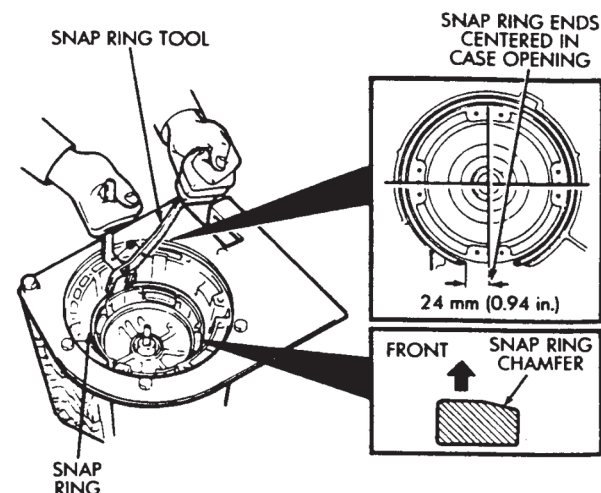

Fig. 38 Installing Overdrive Support Snap Ring
(46) Install overdrive support snap ring with tool B.Vi. FM-29 (Fig. 38). Chamfered side of snap ring faces up and toward case front. **Snap ring ends must be**